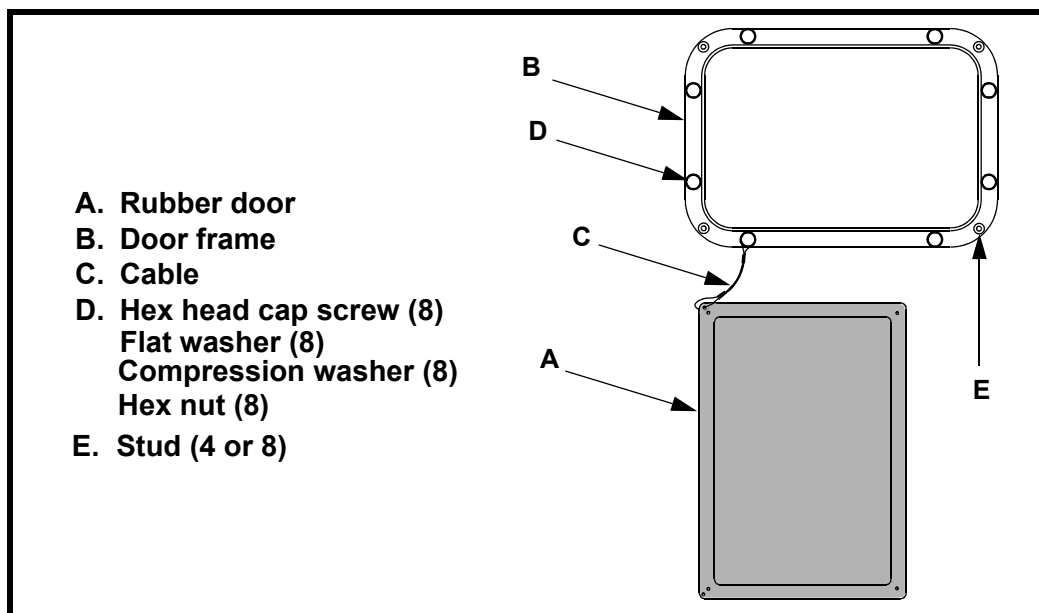

Figure 1. Installing Martin[®] Inspection Door
1. Remove rubber door (A, Figure 1) from door frame (B).